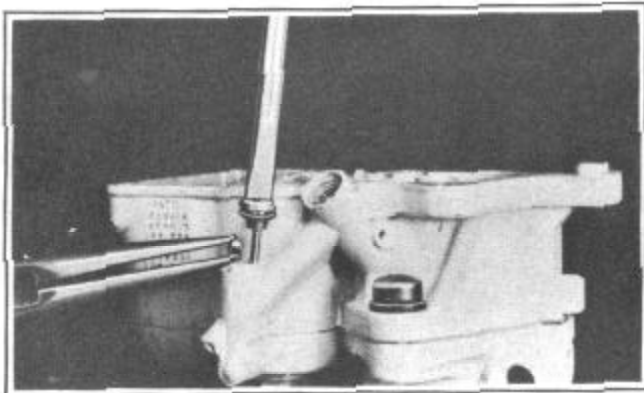

FIGURE 15
8. Remove the pump discharge ball retainer and gasket, and check ball, Figure 15.